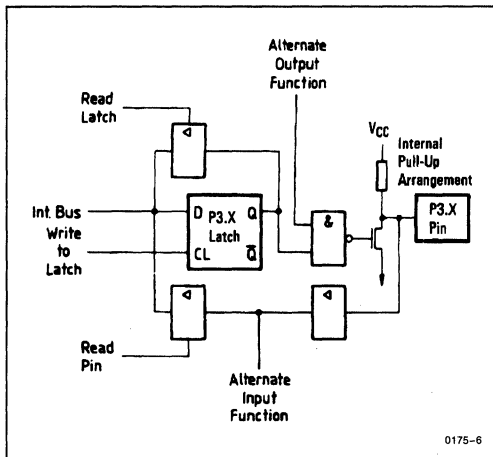

Figure 3-5. Port 3 Circuit
Figure 3-5 shows a functional diagram of port 3 latch. The input buffer and output driver circuit are like those in port 1, port 4 or 5. To pass the alternate function to the output pin and vice versa, however, the gate between the latch and driver circuit has to be open. Thus, to use the alternate input or output functions, the corresponding bit latch in the port SFR has to contain a one (1); otherwise to pulldown FET is on and the port pin is stuck at 0. After Reset all port latches contain ones (1).